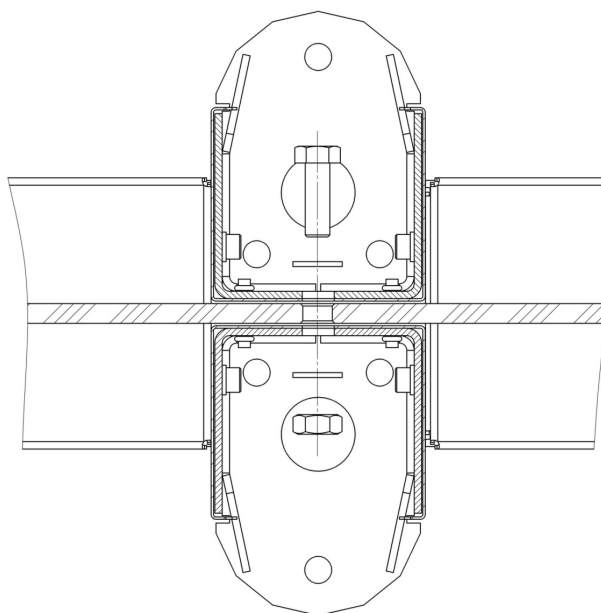

Figure 29. Filling glass fixing in the central post of the double-sided section STD-01
1. Remove the section top cover (10) (Sect. 8.9.6) and two protection plates.
2. Remove the indication block of the central post (3) (Sect. 8.9.5).
3. Remove the swing panel cover plate (4) (Sect. 8.9.4).
4. Remove the central post cover plate (5) (Sect. 8.9.1).
5. Remove both covers from the bottom duct (14) (Sect. 8.9.7).
6. For **ST-01** section: remove the central post rear panel (6). Unscrew 2 M6×16 screws (for SW5 Allen wrench) in the bottom ducts, M6×16 screws (for SW5 Allen wrench) at the bottom of the central post and 2 M5×12 screws (for SW4 Allen wrench) in the top duct (Fig. 29).